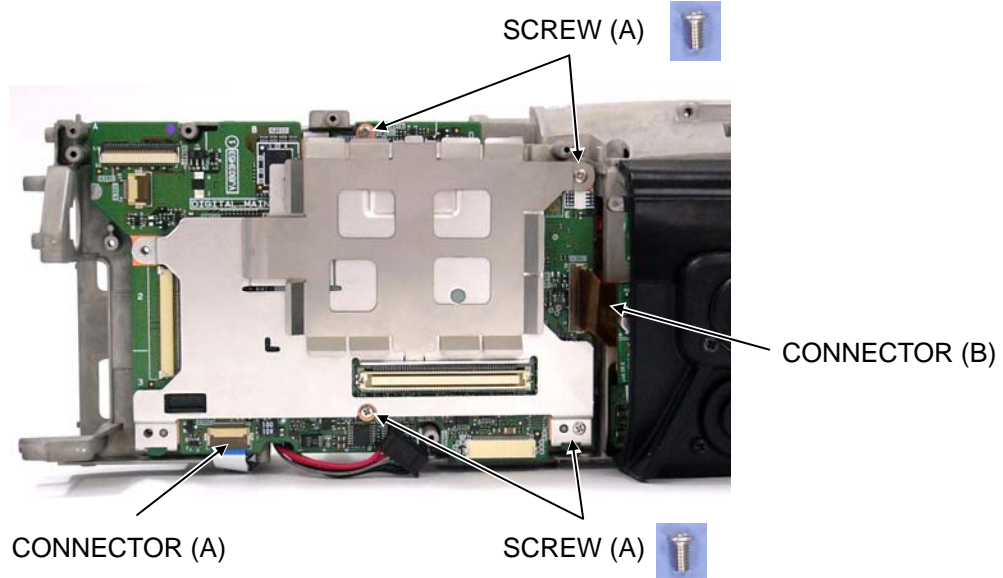

Figure 17-2
8. Disconnect the connector (A) and (B) as shown in figure 17-2.
9. Unscrew the 4 screws (A) as shown in figure 17-2.